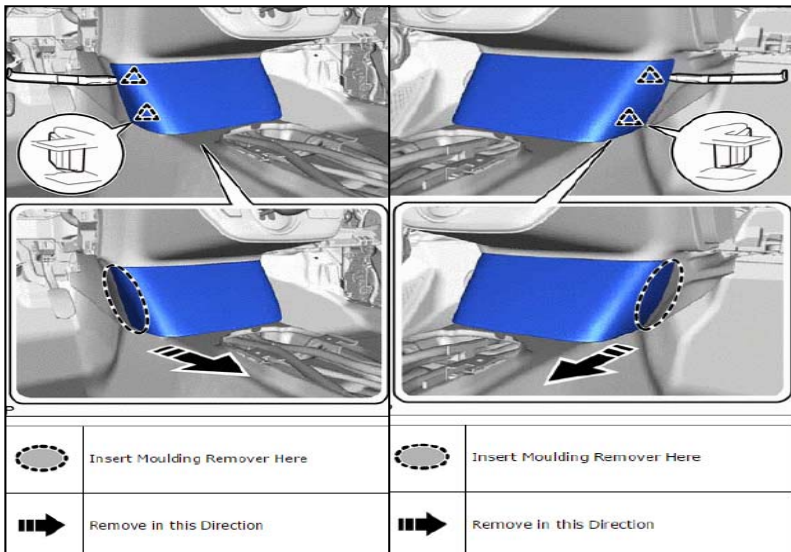

Figure 19
- Using a moulding remover, disengage the 2 clips as shown. See Figure 19.